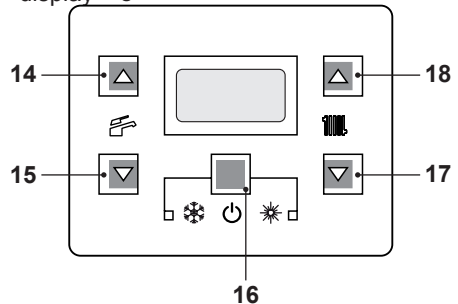

Fig. 2.5
- Press the key 16 for 2 seconds until both  and  symbols appear on the display Fig. 2.5.